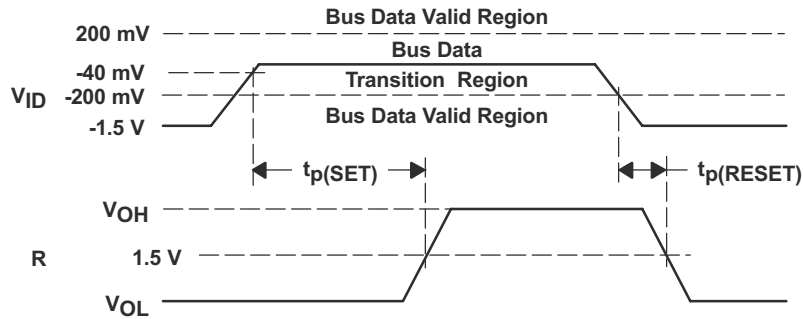

Figure 23. Receiver Active Failsafe Definitions and Waveforms
- (1) H = high level, L = low level, Z = high impedance (off)
(2) If the differential input V_{ID} remains within the transition range for more than 250 μs , the integrated failsafe circuitry detects a bus fault, and set the receiver output to a high state. See Figure 23.